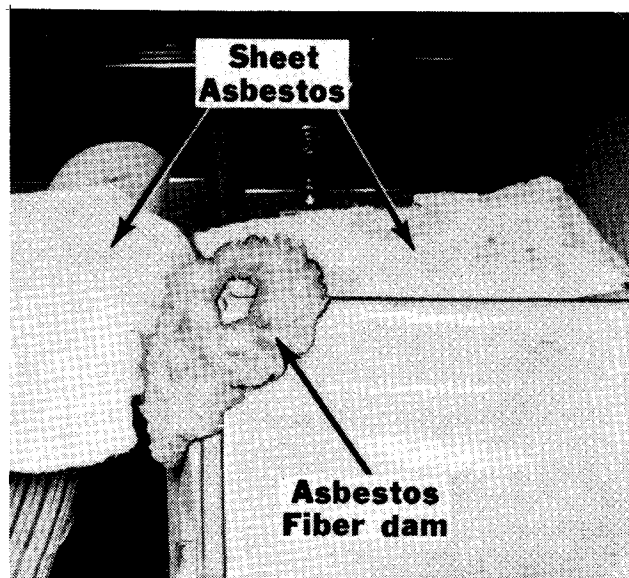

FIG. 3
3. Use asbestos fiber mixed with water as an insulating material to build up a heat-resistant dam around the part to be repaired. See Fig. 3. Slip a sheet of asbestos down into the quarter window opening and another piece over the back of the front seat. Only enough metal should be exposed around the portion to be brazed to permit the operator to do a satisfactory job.